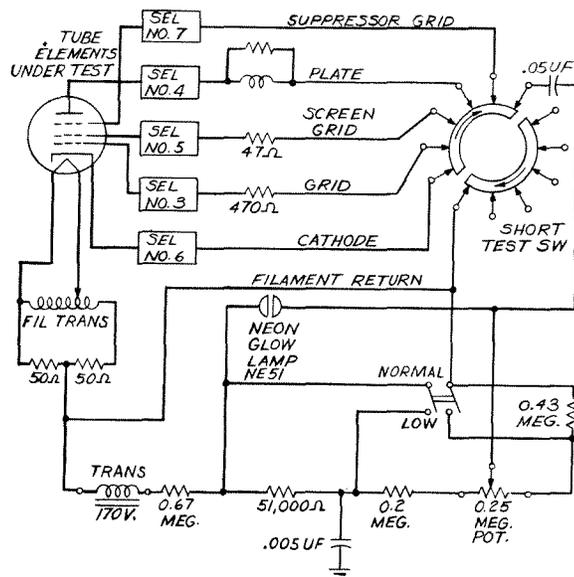

Fig. 1 - Shorts Test Circuit
2.18 SHORTS TEST Switch: On a 6-position selector switch designated SHORTS TEST, five steps are provided to make short-circuit tests between various electrodes of the tube under test, using the neon lamp shorts test circuit indicated in simplified form in Fig. 1. This shorts test may be made with the tube heater (or filament) on or off, but usually is made with the heater (or filament) heated. In the sixth position, designated TUBE TEST, the neon lamp shorts test circuit is disconnected and the tube under test is connected for indicated transconductance, cathode (filament) activity, and other tests.